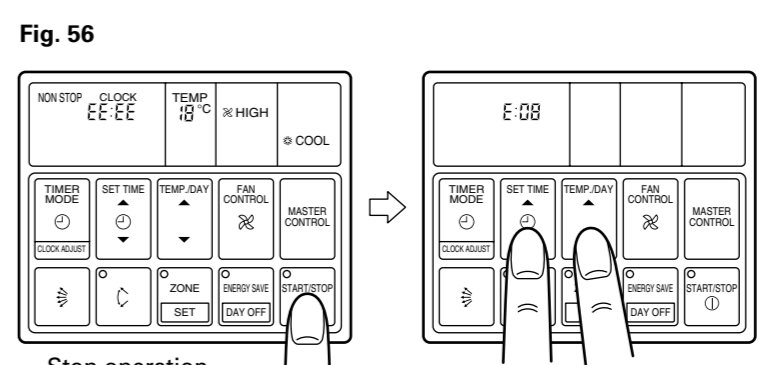

Fig. 56
- When EEEE blinks at the current time display, there is an error inside the air conditioner. If the SET TIME button (←) and SET TEMP./DAY button (→) are pressed simultaneously for more than three seconds, the self diagnosis check will start and the error contents will be displayed at the current time display (Fig. 56). When the operation lamp lights, press the START/STOP button and after operation lamp goes off, perform the same operation (Fig. 56). Process the error contents by referring to (Table 7).